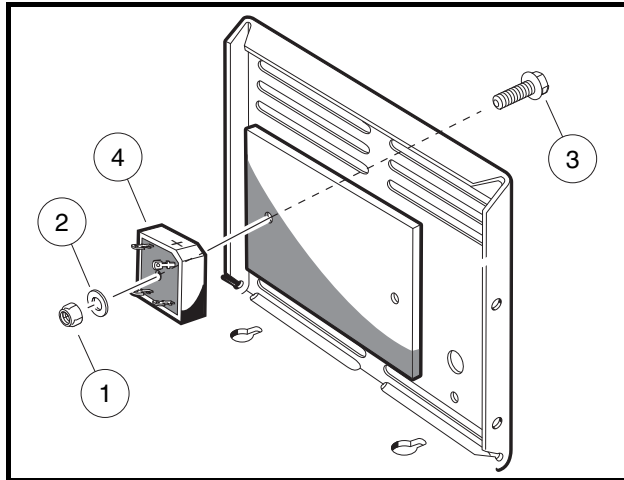

Figure 5-19 Rectifier
4. Remove the nut (1), lock washer (2), and screw (3) from the rectifier and remove the rectifier from the heatsink (**Figure 5-19, Page 5-25**).
3. Place the rectifier against the heatsink plate so that the notch in the rectifier is oriented as shown (**Figure 5-19, Page 5-25**). Install the screw (3), lock washer (2), and nut (1) through the hole in the charger case, heatsink plate, and rectifier. Tighten the nut to 8 in-lb (0.9 N·m).